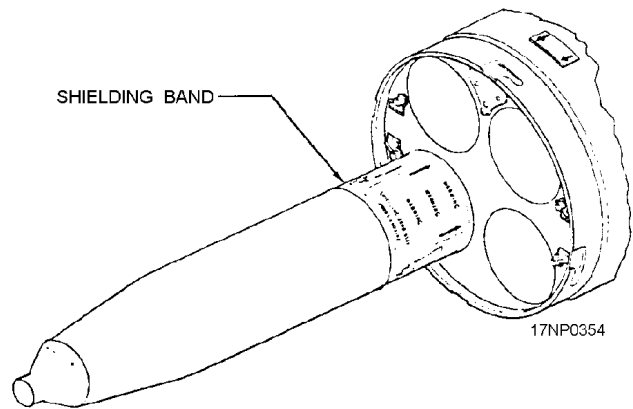

Figure 13-23.—5.0-inch rocket RADHAZ and electrostatic protection.
3. Slide shielding band (fig. 13-23) over motor and hold against forward part of launcher; push motor forward until locking tabs seat in the motor detent grooves and not in the contact band groove.